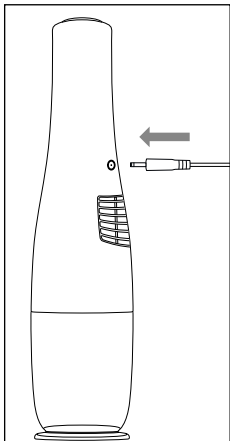

Fig. 1
- ◆ Connect the barrel plug ⑩ of the mains adapter ⑪ to the charging socket ⑧ on the underside of appliance (see Fig. 1). Plug the mains plug of the mains adapter ⑪ into the socket. The charge indicator lamp ⑥ starts flashing blue and the charging process begins.